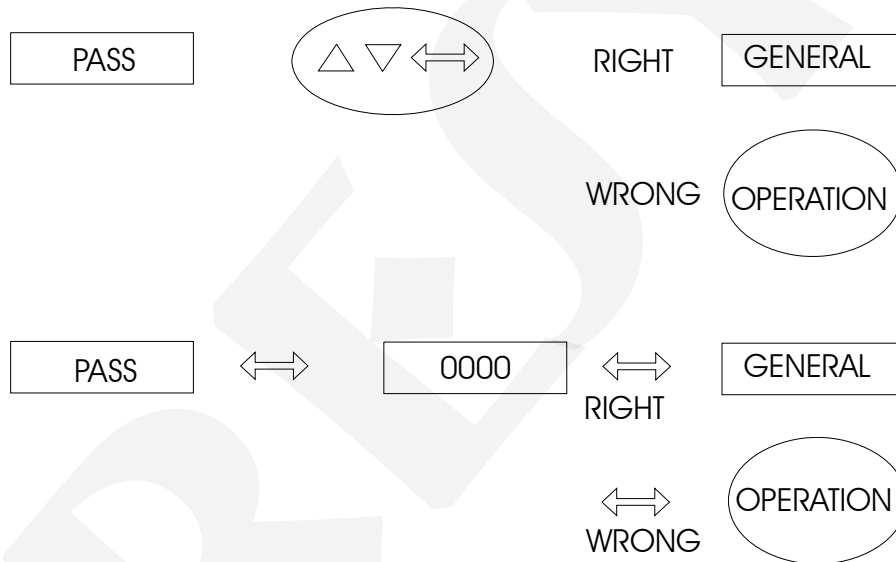

Fig. 11 - Password system by key and by value
- ii) The display shows the password warning, indicating that the instrument is provided with a password system which can be either by key or by value, as illustrated on figure 11.
In the case of password by value the user should press the ENTER key a second time to obtain the display of number 0000 with the last digit flashing on the right. The flashing digit indicates the position where the digit of a 4-digit number will be entered by the user. In order to move to the other digits to the left of the number one should press the ENTER key. After entering all digits, press once more the ENTER key to switch to level 1 in case the password is correct; otherwise, the system reverts to normal operation (see figure 11).